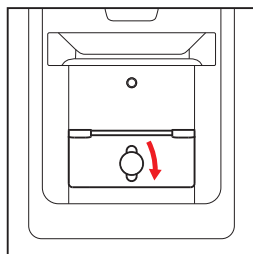
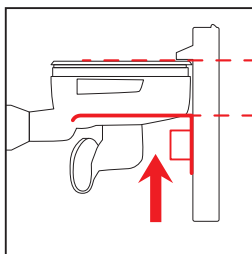

Figure 4
Figure 5
8. Unscrew the screws securing the Portafilter Fork (Figure 4), Adjust the height of the portafilter fork to match the portafilter. (Figure 5).